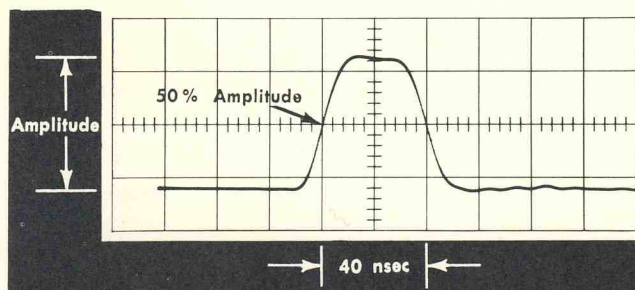

Fig. 6-8. Checking pulse duration and amplitude. Sweep rate is 20 nsec/cm.
- g. Check that the waveform has a pulse duration of about 40 nsec at the 50%-amplitude level (see Fig. 6-8).